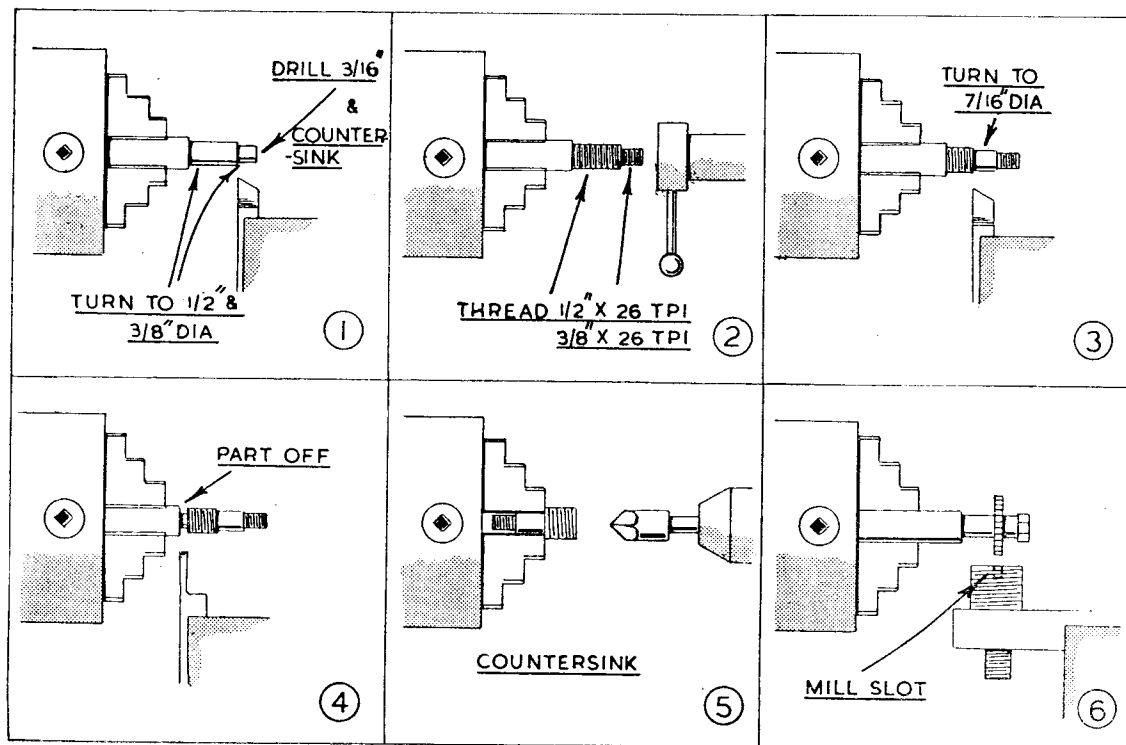

Fig. 3. The machining sequence for the body portion
operational drawing, Fig. 3. Time will be saved if the readings of the cross-slide index are noted when machining the first part with a right-hand knife tool, as these can be repeated for sizing the remaining parts. In the same way, reference to the leadscrew index will enable a uniform length to be maintained on the shouldered portions of the work-pieces.
As described in a previous article, and illustrated in Fig. 3 (6), the body can be held in an L-shaped bar, gripped in the lathe toolpost and drilled at centre height; but, here, it is advisable to secure the body in place with a nut. The slotting was actually carried out by screwing the body into a piece of bar, tapped $\frac{1}{2}$ in. \times 26 t.p.i., which was found in the scrap box. Another method is to grip a short length of square rod in the toolpost and to drill and tap it axially, but the end of the rod should be counter-drilled to allow the work to seat against its $\frac{1}{2}$ in. diameter shoulder. After centring the work to the cutter, the slot is milled to depth, but does not extend as far as the screw threads. However,